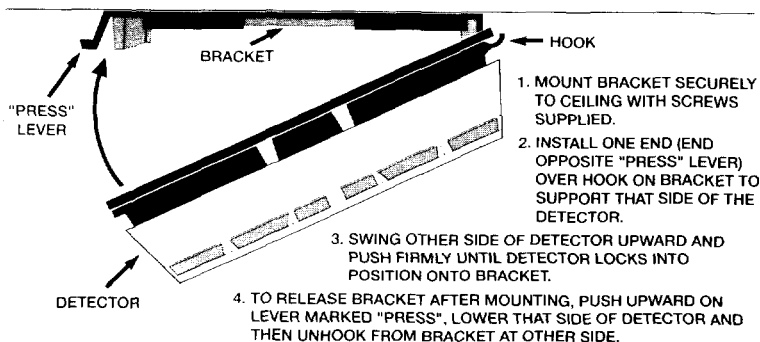

Figure 4. Mounting the Smoke Detector
3. Install the detector (with batteries installed) onto the bracket as follows, referring to Figure 4: